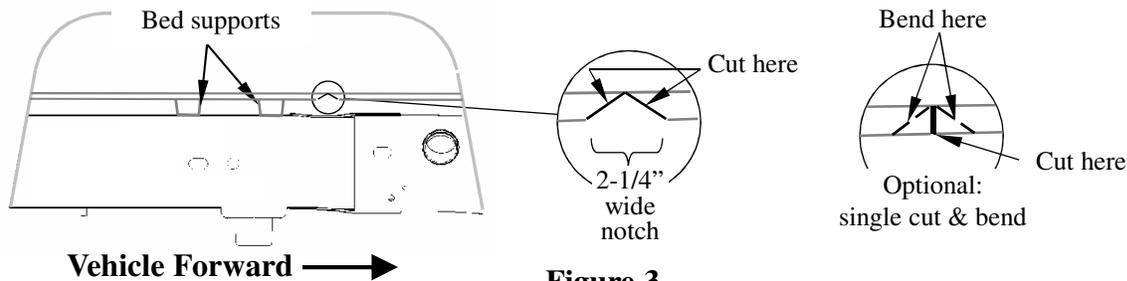

Figure 3
6. From the passenger's side wheel well, cut a 2-1/4" wide notch into the sheet metal flange as shown in Figure 3. Another way to notch the bed flange is to make a single vertical cut, then fold the flange material up enough to allow the rails to fit between the frame and the bed. After the rails have been installed, the cut flange may be bent back down to its original position and the cut steel surfaces may be touched up with paint to prevent rusting.